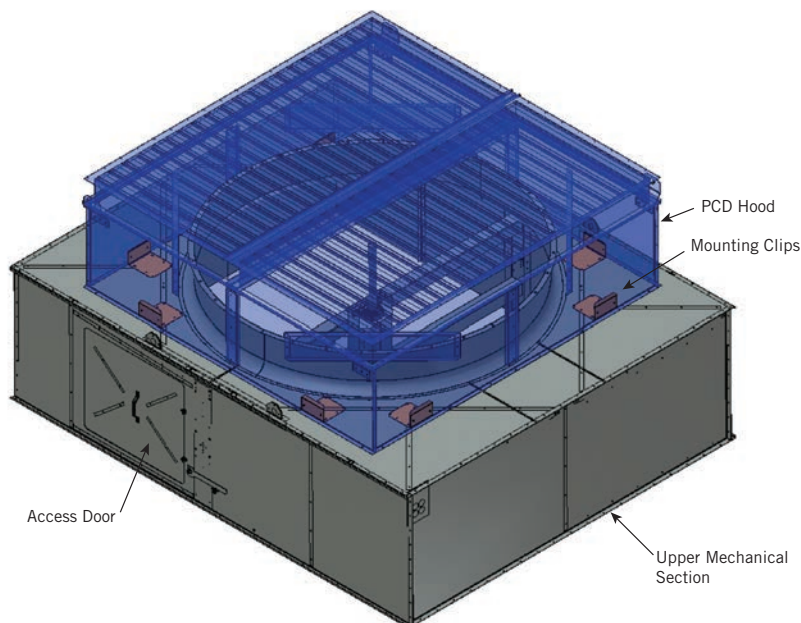

Figure 21. PCD Hood Bracket Mounted Assembly
Bracket Mounted Assembly: PF2-1012, 1024, 2012, 1212, 2412, 1224, 2424, (Two Fan Only for PF2-1218, 1236, 2418, and 2436) (Figure 21)
2. Apply foam tape (BAC part # 270567) to the bottom edge of the PCD hood. Lower the PCD hood into position on the upper mechanical section by aligning the bolt holes on the PCD hood with the pre-existing bolt holes on the bracket mounts as shown in **Figure 21**. Be sure to follow the minimum height restrictions H found in **Table 3** between the top of the PCD Hood and the apex of the crane cables supporting the load.